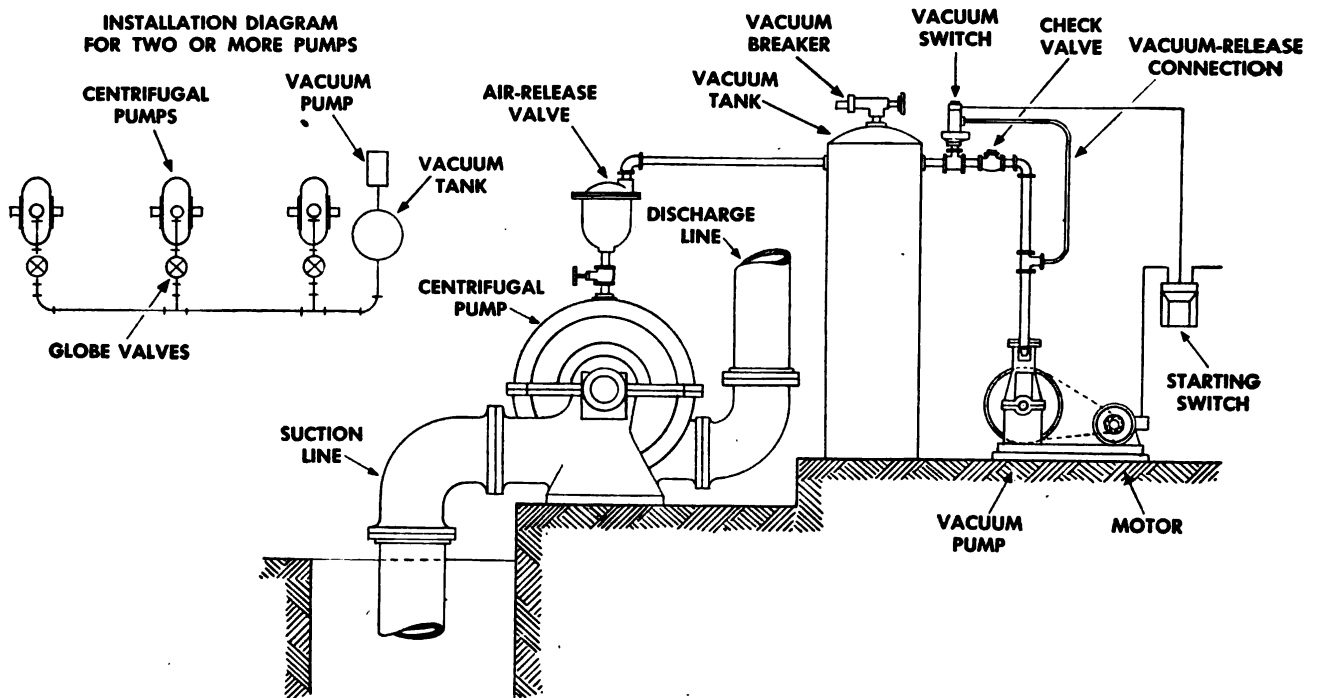

Figure 50. Typical installation lay-out of automatic vacuum primer system.
c. Check Vacuum-Pump Type Systems. Check air compressors, pressure controls, vacuum-relief valves and float valves on vacuum-pump type systems. Inspect valve seats, diaphragms, contacts, floats, and float mechanisms (fig. 50).